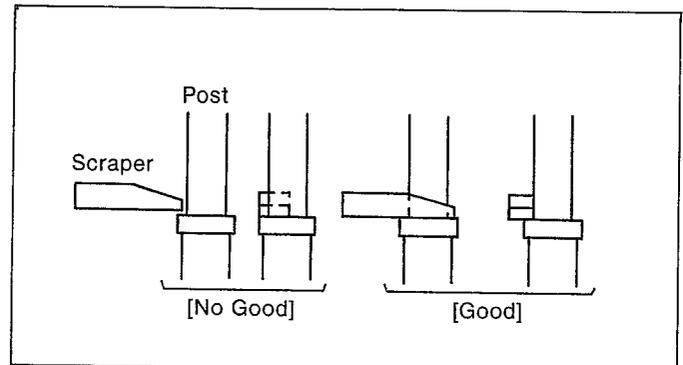

Fig. M14
- Place the scraper of Reel Table Height Gauge as shown in Fig. M14.